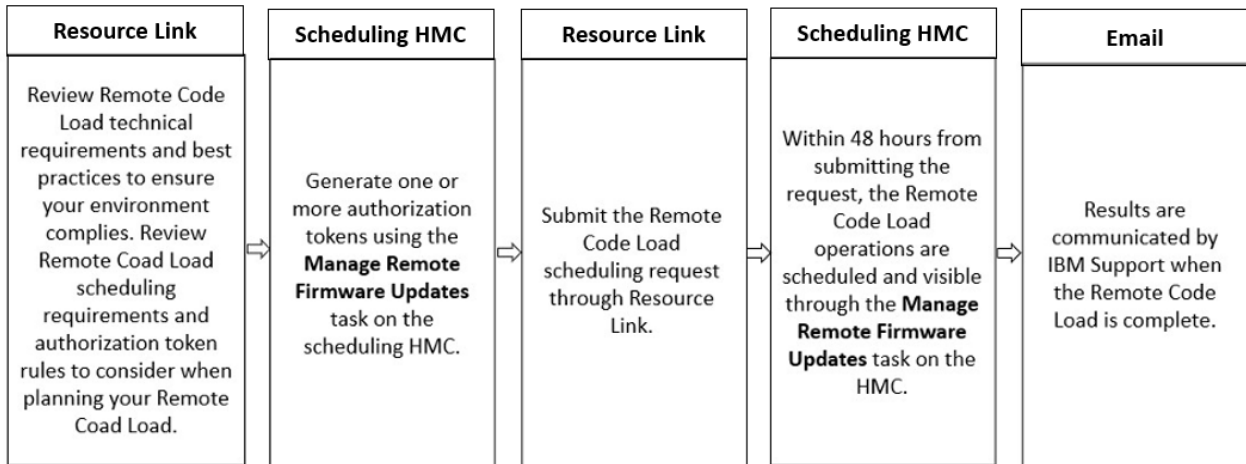

Figure 1. Remote Code Load firmware update process flow
The IBM z16™ and IBM z15™ (z15™) supports the Remote Code Load for IBM Z Firmware (Remote Code Load) feature. This feature allows you to remotely schedule and install the most recent Remote Code Load firmware updates on your Hardware Management Console (HMC) or Support Element (SE). See Figure 1 on page 9 for the process flow of a typical, successful Remote Code Load firmware update.